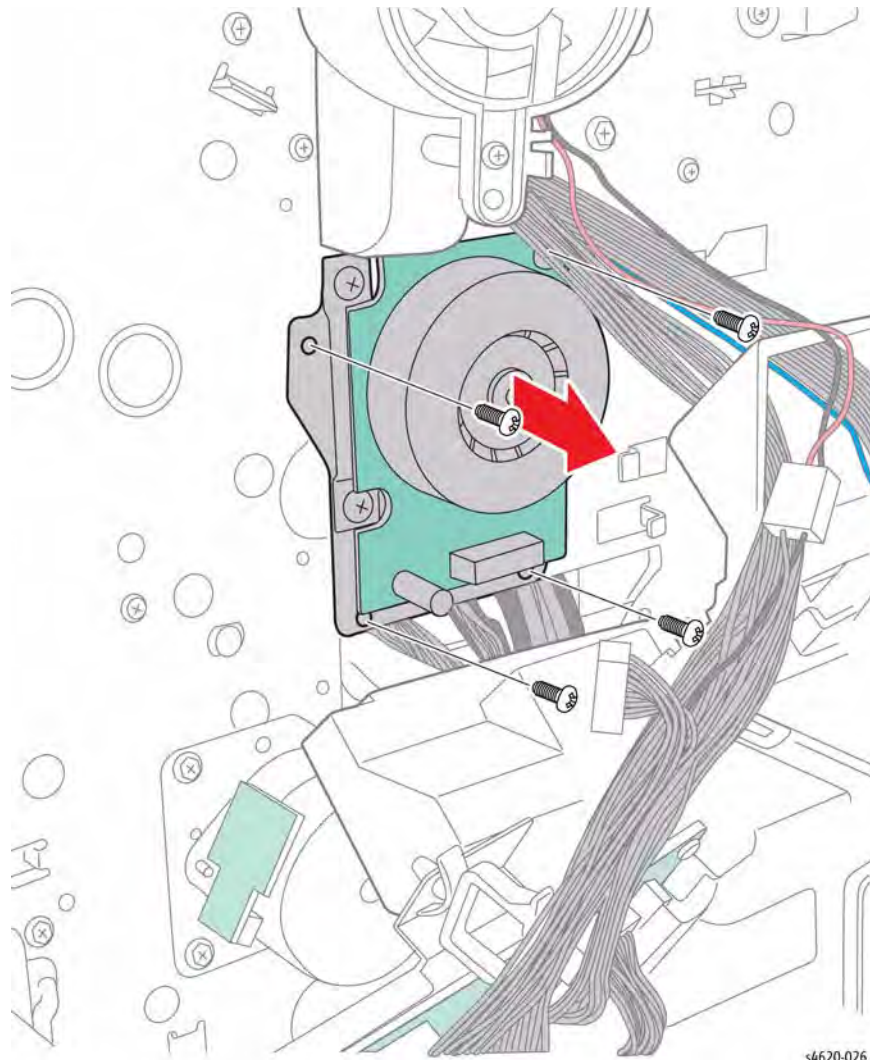

Figure 6 Remove the Fuser Drive screws
- 15. Remove 4 screws (metal) that secure the Fuser Drive Assembly, Figure 6.